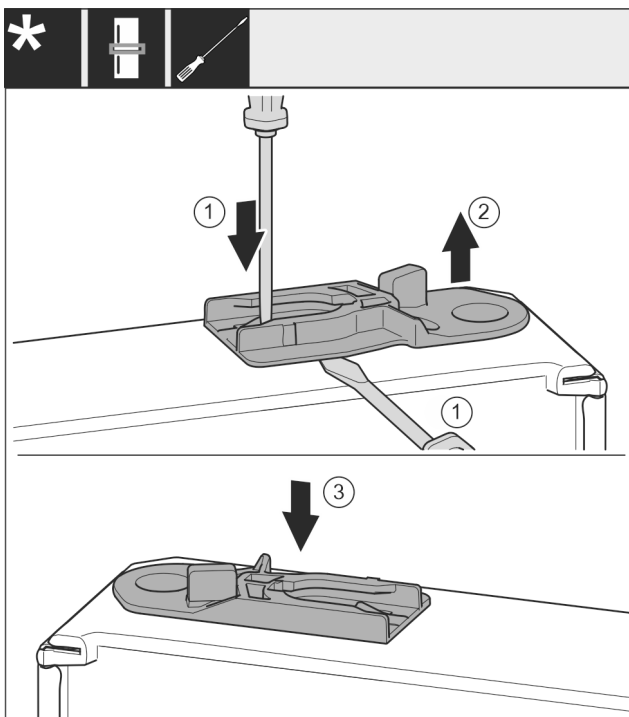

Fig. 39
- ▶ Pull out the guide bush: Press the tab *Fig. 39 (1)* with a flat-blade screwdriver and at the same time move the flat-blade screwdriver under the guide bush *Fig. 39 (2)*.
- ▶ Insert the guide bush *Fig. 39 (3)* supplied on the other side of the housing.